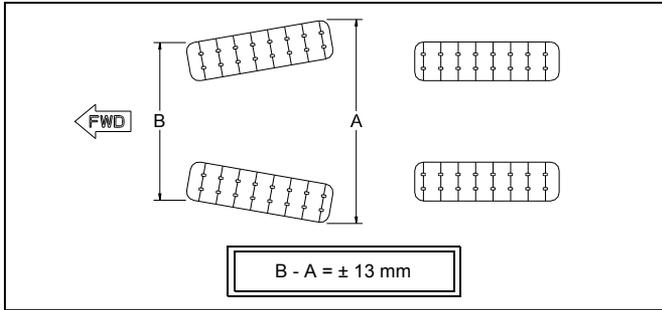

Figure 10
The parallelism must be adjusted with the ATV on the ground, driving forward on about 3 m and measuring toe in distance. It should be 13 mm less at the front (B) than at the back (A) (refer to Figure 10).